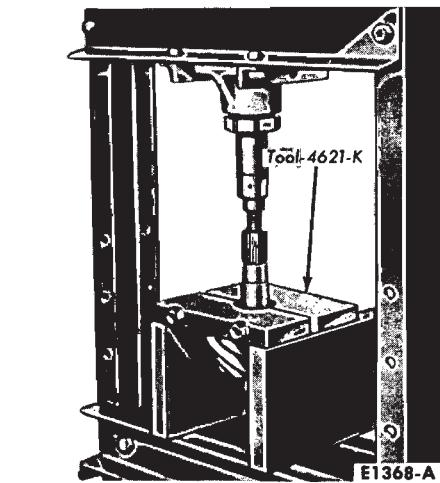

FIG. 27—Removing Pinion Rear Bearing Cone
6. Press the pinion shaft out of the pinion rear bearing cone and roller (Fig. 27).